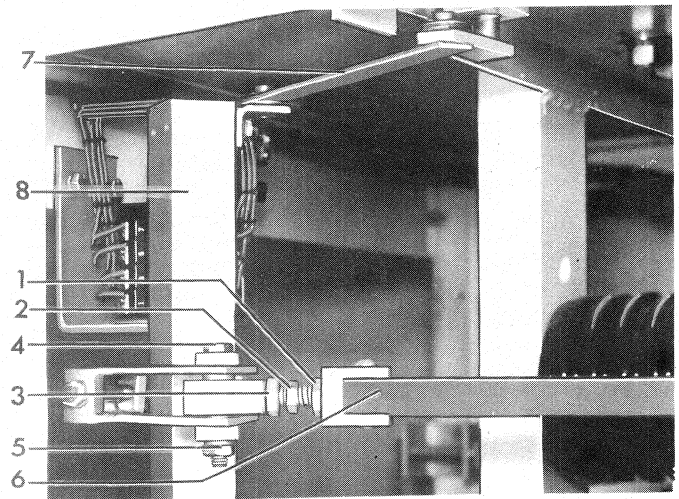

Figure 12. (8039294) Operating Rod
Refer to Fig. 21. With the breaker closed, press the manual trip button allowing the breaker to open normally. The gap between the primary contacts should be  $3/4" + 0-1/32"$ . Indicator (4) moves with the contact rod of the interrupter and can be used to measure the contact gap. Mark the indicator with a pencil where the pointer (1) indicates. Close the breaker by the manual closing wrench and measure the distance from the pointer to the pencil mark. To change the contact gap the operating rod adjustment screw (2) Fig. 12 is used. Loosen nuts (1) and (3) and turn the hex center of the double ended adjustment screw to increase or decrease the gap. One full turn will close or open the contact gap approximately  $1/8"$ . Tighten the locking nuts and remeasure the gap after closing and tripping the breaker.
To adjust the contact wipe loosen the operating rod bolt (4) Fig. 12 and move the rod toward the square shaft to decrease wipe and away from the shaft to increase wipe. Be certain the serrated washers (5) are seated properly before tightening the bolt. Close the breaker and remeasure the gap at the spring guide.